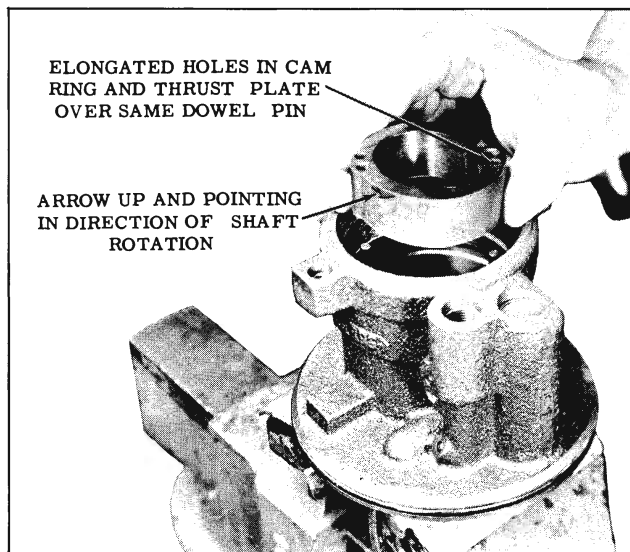

Fig. 4-31 Installing Cam Ring
NOTE: One of the dowel pin holes is slightly elongated in both the thrust plate and cam ring. These holes should be at the same dowel pin to minimize the possibility of pump noise. (Fig. 4-31)
9. Install the cam ring with the small holes over the dowel pins SO THAT THE ARROW ON THE OUTER SURFACE IS NEAR THE TOP OF THE CAM RING. (Fig. 4-31)